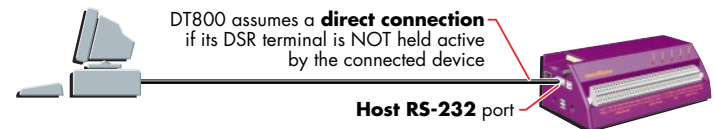

FIGURE 73 DSR inactive (low)
- If the DT800’s DSR terminal is **NOT** held active by the connected device, the DT800 assumes that it’s connected **directly** to the host computer (Figure 73) and operates accordingly.